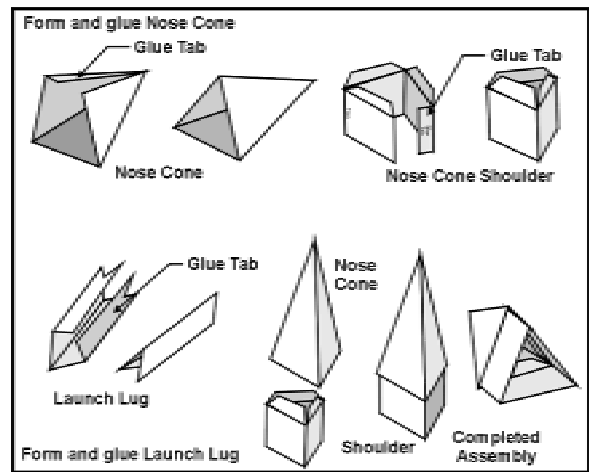

Figure 6
- Cut out the patterns for the Nose Cone, Shoulder and Launch Lug. From the printed side, lightly score along the score lines found on each pattern, being very careful not to cut all the way through the pattern. Referring to **Figure 6**, crease each pattern at all score lines, apply a film of glue along the glue tabs and join the tabs as shown, forming your each part. Set aside to dry. When dry, apply a film of glue to the 3 glue tabs on the Shoulder and attach to the Nose Cone as shown in the lower right of Figure 6. **NOTE:** Refrain from using tape to hold these items together while drying as the tape may spoil the finish on the part.